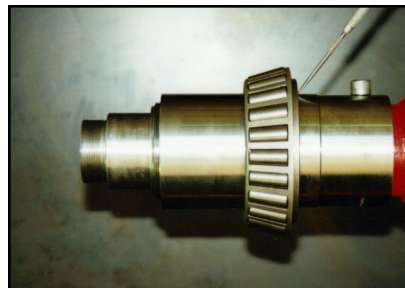

Fig 2.
- Step 1.** Lightly spray a light oil over the bearing rollers. Fit the inner bearing cone onto the axle, Fig 2, ensuring it seats square against the axle shoulder or seal wear ring.